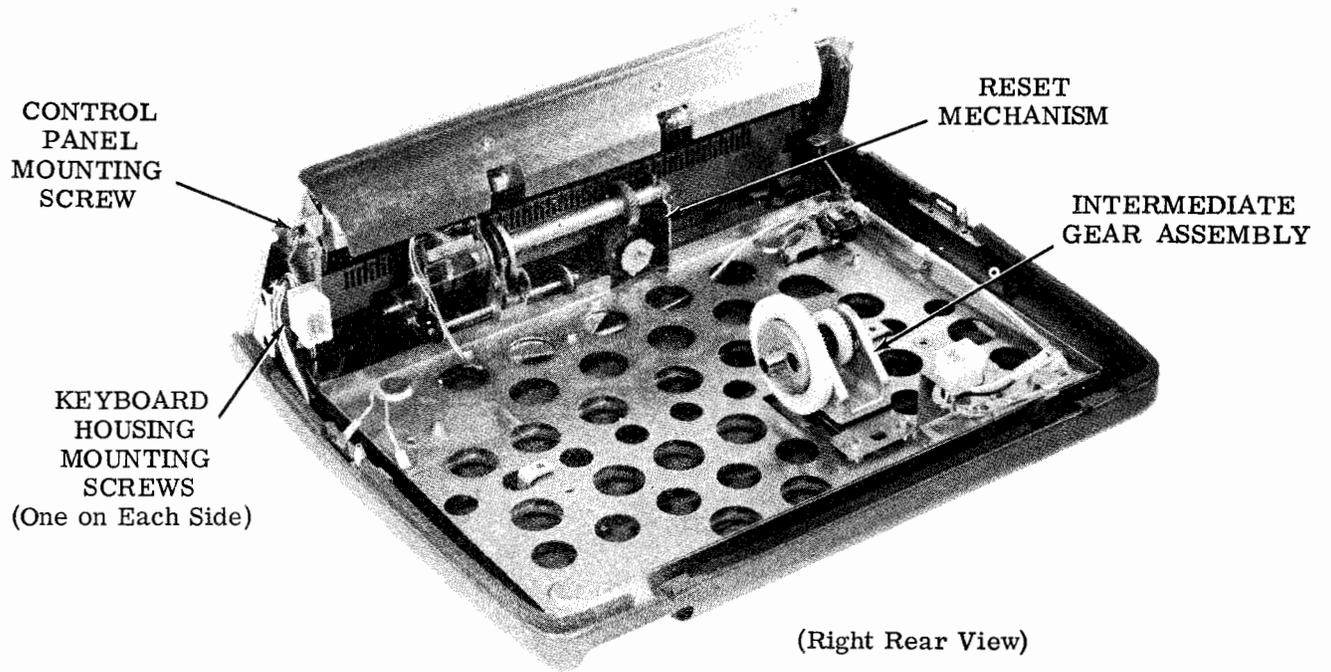

Figure 4 - Keyboard Unit
- 2.12 To remove the TP315100 reset mechanism, proceed as follows (Figures 4 and 5):
- 2.17 Remove the intermediate gear assembly by removing the three TP104898 mounting screws (Figure 4).